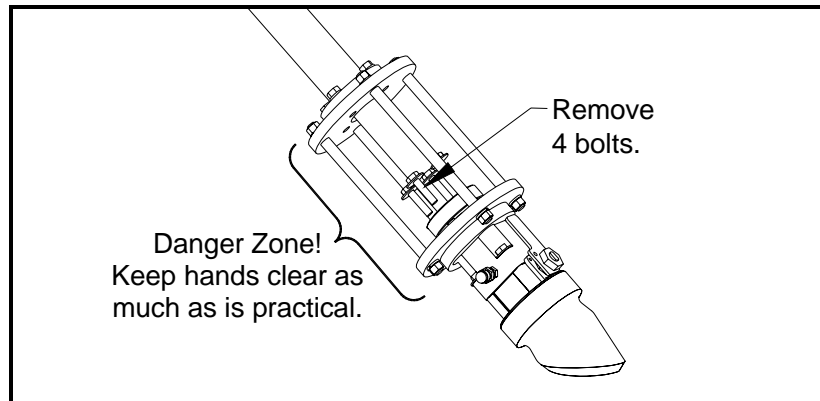

Figure 6-10: Transducer Flange Bolt Removal
During the installation and removal of a transducer, the indicated danger zone areas are potential pinch points (see Figure 6-10 on page 6-10). Attention is required to ensure safe use.
6. Remove the four bolts from the transducer flange with a 9/16" socket wrench (see Figure 6-10 below).